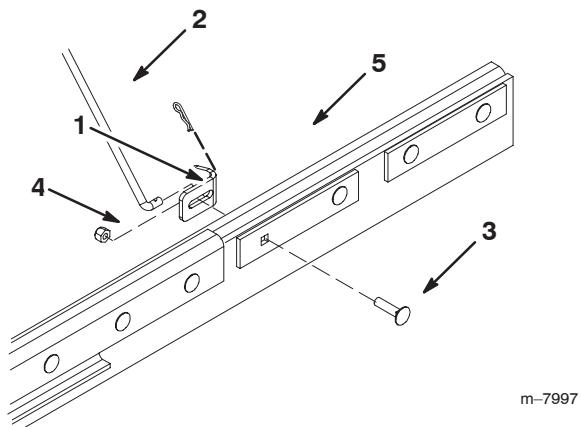

Figure 21
4. Install the adjuster bracket for the 60 and 72 inch decks as shown in Figures 21 and 22.
5. Secure the adjuster bracket using a carriage bolt (5/16 x 1-1/4 inch) and lock nut (5/16 inch), as shown in Figure 21.
6. Insert the bent end of the lift rod into the round hole of the bracket and secure it with a hair pin (Fig. 21).